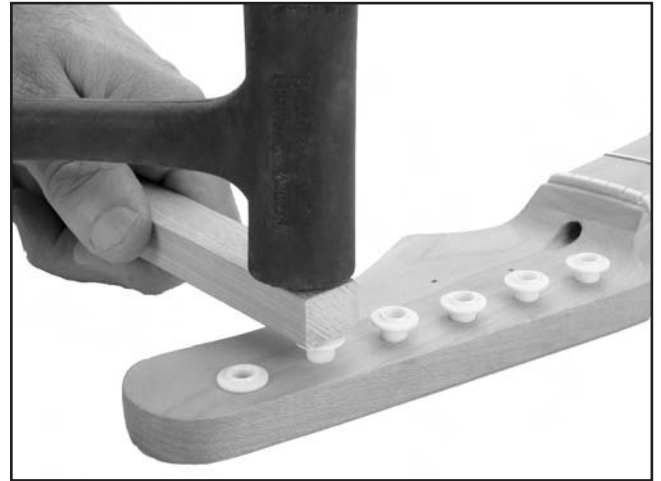

Figure 7. Seating bushings.
2. Place a wooden block on the bushings and lightly tap the block with a hammer (**Figure 7**) until the bushings are seated against the face of the headstock.